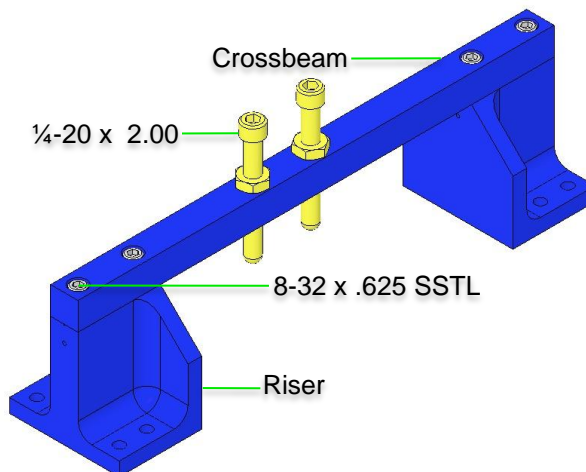

Fig 26: Top Blade Guard Assembly
3. Thread 1 Ag-Plated Hex Nut onto each of 2 Rounded End SHCS, 1/4-20 X 2" (D0900999). Thread the 2 Rounded End SHCS into the Blade Guard Crossbeam with the rounded ends facing down, as shown in Figure 26.